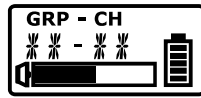

Fig. 10
- (3) The specific group and channel set via PC will display  $\times \times - \times \times$ . Fig. 10